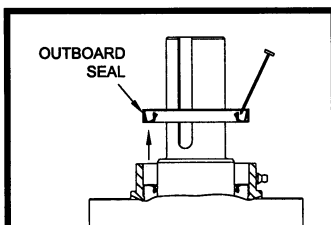

Figure 6.2.1.2 Removal of Outboard Seal
6. With a hammer and punch carefully pierce the inboard seal flange. **Reference Figure 6.2.1.3**.